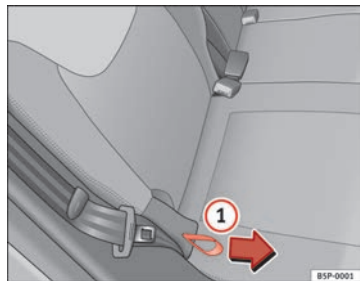

Fig. 97 Rear seat backrest angle adjustment
- Hold the backrest at the top. Pull the loop on the side of the seat ⇒ fig. 97 ① in the direction of the arrow and hold the loop in this position. Push the backrest to the required position and release the loop.